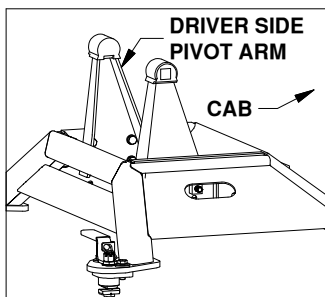
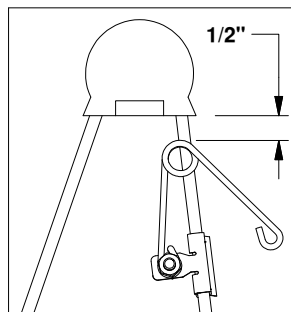

FIGURE B3: Base View
FIGURE B4: Driver
2. Locate the flange which will be closest to the truck cab on the driver side pivot arm, see figure B3. The clip should be placed so that when the springs coil is in the line with the edge of the arm there will be 1/2" of clearance between the bottom of the rubber bumper and the top of the spring, see figure B4. Drive the clip securely onto the flange with a hammer.